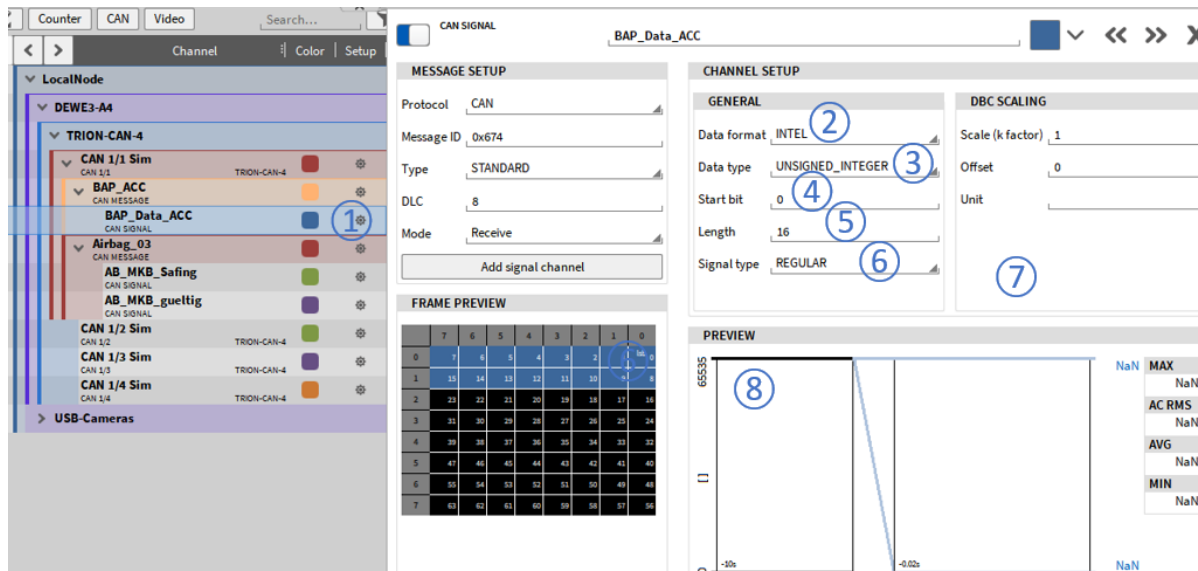

Fig. 7.194: CAN signal setup
The CAN signal setup can be accessed by pressing the gear button of the respective CAN signal in the Channel List (see ① in Fig. 7.194).
- Data format (see ② in Fig. 7.194): Intel or Motorola
- Data type (see ③ in Fig. 7.194): Double, Float, Signed Integer or Unsigned Integer
- Start bit (see ④ in Fig. 7.194): Define the start bit of the signal within its message
- Length (see ⑤ in Fig. 7.194): Define the length of the signal within its message
- Signal Type (see ⑥ in Fig. 7.194): Regular, Multiplexed or Multiplexor
- DBC Scaling (see ⑦ in Fig. 7.194): Change the scaling of the signal
- Preview: (see ⑧ in Fig. 7.194): The preview shows the past 10 seconds of the signal to check if proper settings have been applied to the signal.